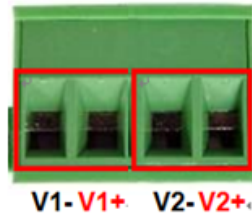

Figure 2.5 - Power Terminal Block
1. Insert the positive and negative wires into the PWR1 (V1+, V1-) and PWR2 (V2+, V2-) contacts on the terminal block connector as shown below in *Figure 2.5*.